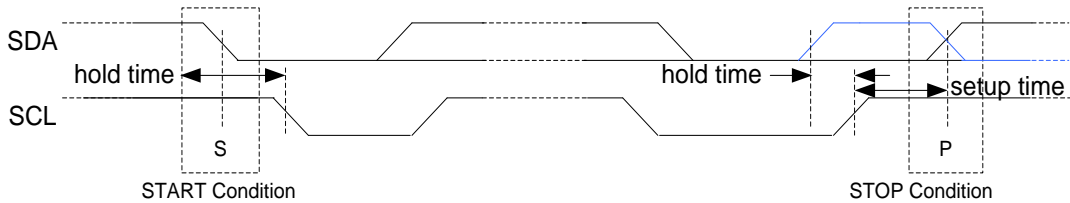

Figure 30. START and STOP (or repeated START, blue line) condition
An idle I²C bus state occurs when both SCL and SDA are not being driven by any master and are therefore in a logic HI state due to the pull up resistors. Every transaction begins with a START (S) signal and ends with a STOP (P) signal. A START condition is defined by a high to low transition on the SDA while SCL is high. A STOP condition is defined by a low to high transition on the SDA while SCL is high. START and STOP conditions are always generated by the master. This slave module also supports repeated START (Sr) condition which is same as START condition instead of STOP condition (the blue-color line shows repeated START in Figure 30).